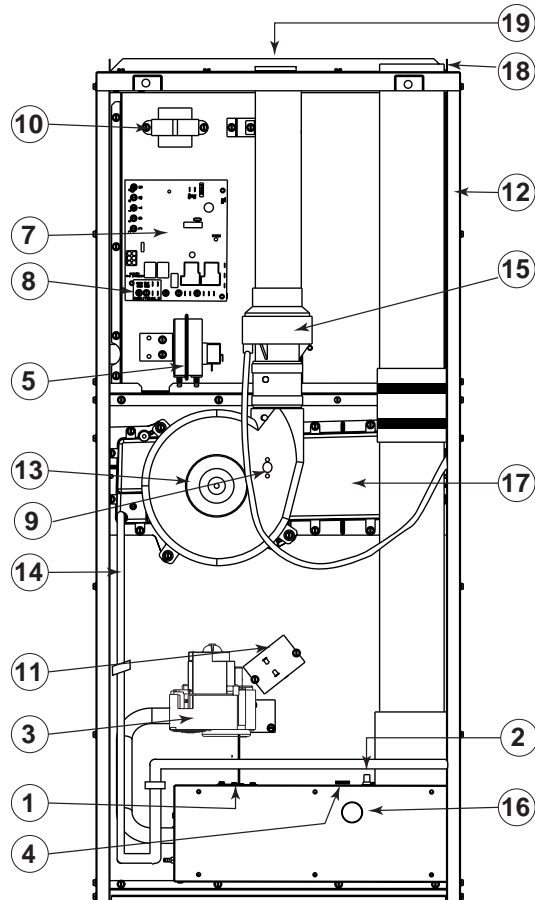

Figure 27. Location of Major Components
If the furnace locks out after 5 attempts for ignition, it will try again every hour if a call for heat remains. If the inducer and circulating air blowers are operating, and items 1 through 8 have been checked, press the red reset button on the vent safety switch. (See Figure 27.) If the furnace operates after depressing the reset button, contact a qualified serviceman to identify and repair the problem.
If the furnace continues to not operate, depress the red reset buttons on the flame rollout switches. (See Figure 27.) If the furnace operates after depressing the reset buttons, contact a qualified servicemen to identify and repair the problem.